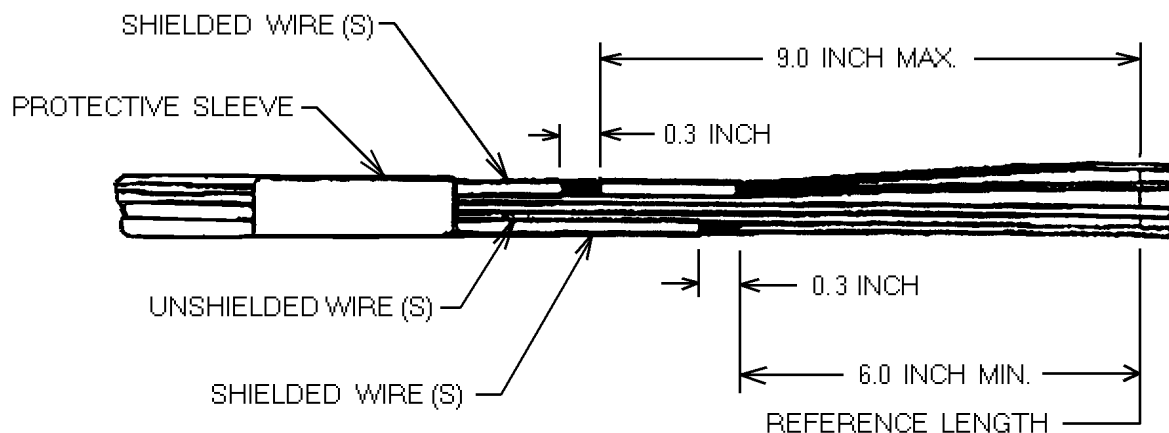

Figure 5-3. Strip Length for Shielded Component Cables.
3. Strip jackets of shielded component cables for shield terminator installation (Figure 5-3).